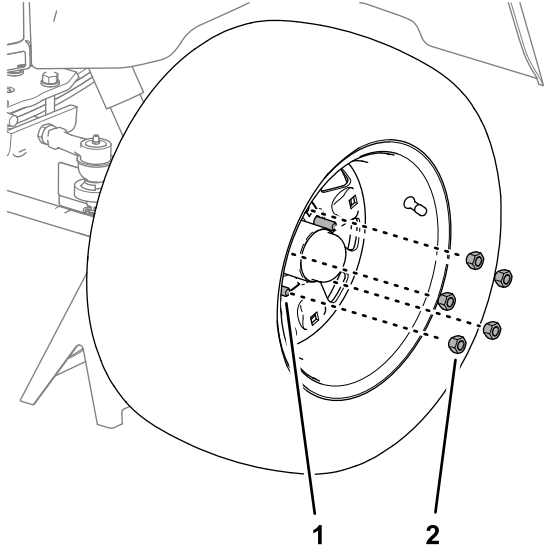

Figure 23
1. Align the holes of the wheel onto the studs of the wheel hub (Figure 23).
2. Assemble the wheel to the studs with the 5 wheel nuts, and tighten them by hand (Figure 23).